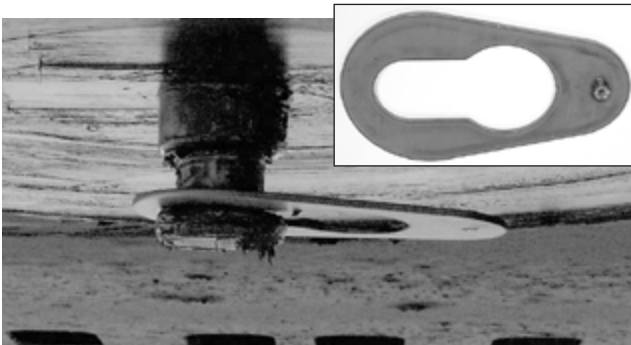
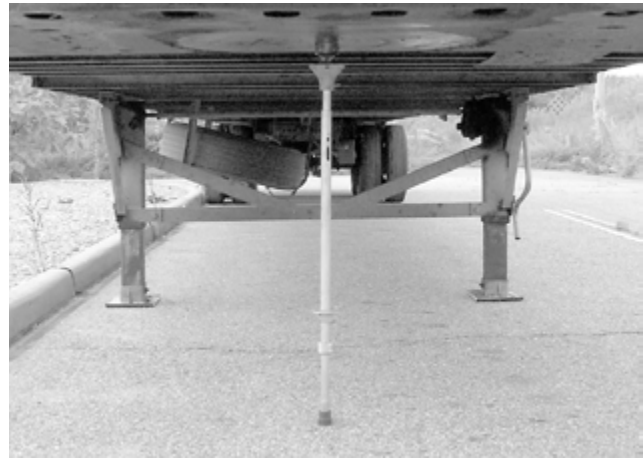

Figure 17: Kingpin adapter
Figure 18: Kingpin extender
- A. If this sightline is free from under-trailer obstructions that would interfere with a measurement (i.e., landing legs, trailer frame, tool boxes, etc.), then the kingpin adapter (Figure 17) can be used to make the measurement in Step 5.
- B. If this sightline is obstructed, then the kingpin extender or pogo stick (Figure 18) must be used to lower the connection for the measurement in Step 5.
2. **Place** kingpin adapter (Figure 17) or kingpin extender (Figure 18) onto the kingpin.